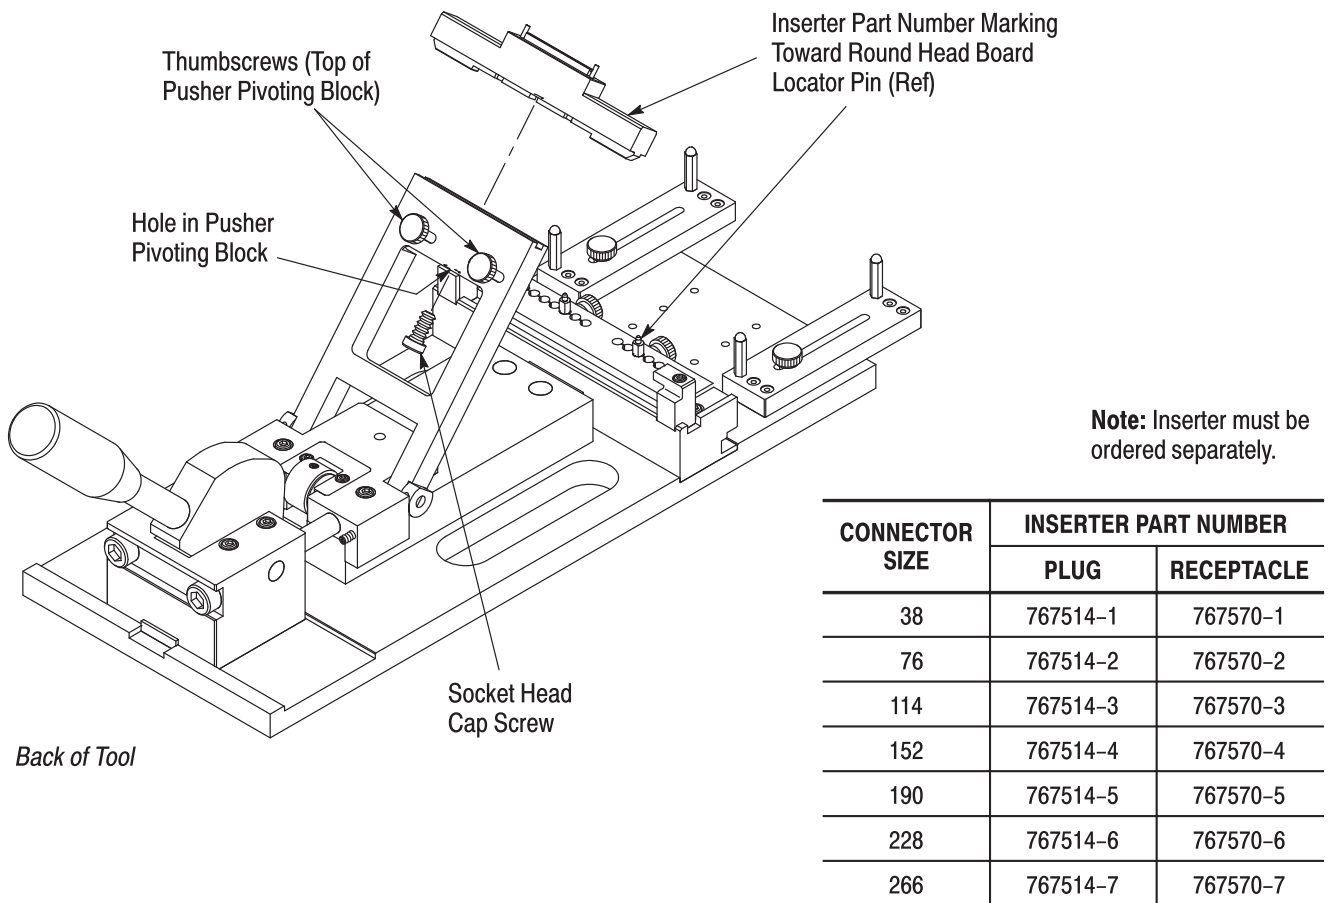

Figure 3
**NOTE** *Inserters are designed for each connector size and must be ordered separately (see Figure 3).*
### B. Installing Inserter (Figure 3)
3. If necessary, remove the inserter from the pusher pivoting block. Refer to Figure 3 to determine the appropriate inserter according to the size of the connector being used.